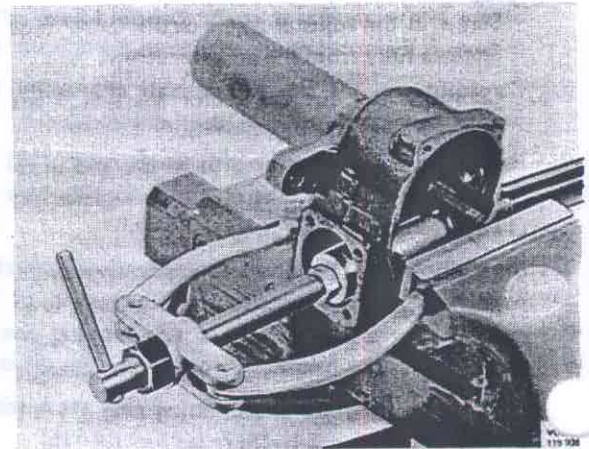

Fig. 64-19. Removing the upper bearing adjuster ring
5. Check the contact surfaces of the worm against the roller and the inner races for the ball bearings (7 and 14). If there are scratches, scoring or severe wear, replace the worm and shaft. Check the balls of the bearings and outer rings. If scored or damaged in any other way, replace the bearing parts. The upper bearing outer ring is pulled out with the help of a Kukko standard jackknife No. 21-6 kit 24B, see Fig. 64-19. Tap the ring in